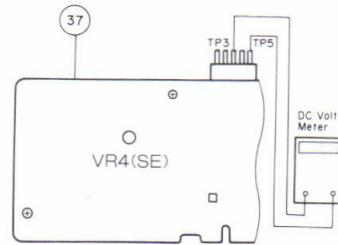

Fig. 22
- 1. Follow disassembly procedure (B) to remove the Bottom (14).
- 2. Insert the test connector into the 5P Plug (CN4) of the Control PWB Ass'y (37), and connect a DC voltmeter between TP3 and TP5 on the test connector. (Figure 22)